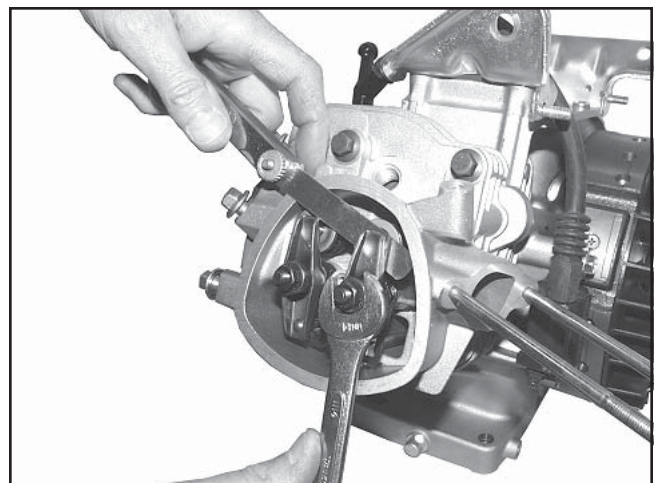

Figure 11-50. Adjusting Valve to Rocker Arm Clearance.
- b. Insert a flat feeler gauge between the rocker arm and the valve stem. The recommended valve to rocker arm clearance for both intake and exhaust is 0.076-0.127 mm (0.003-0.005 in.) (Cold). See Figure 11-50.